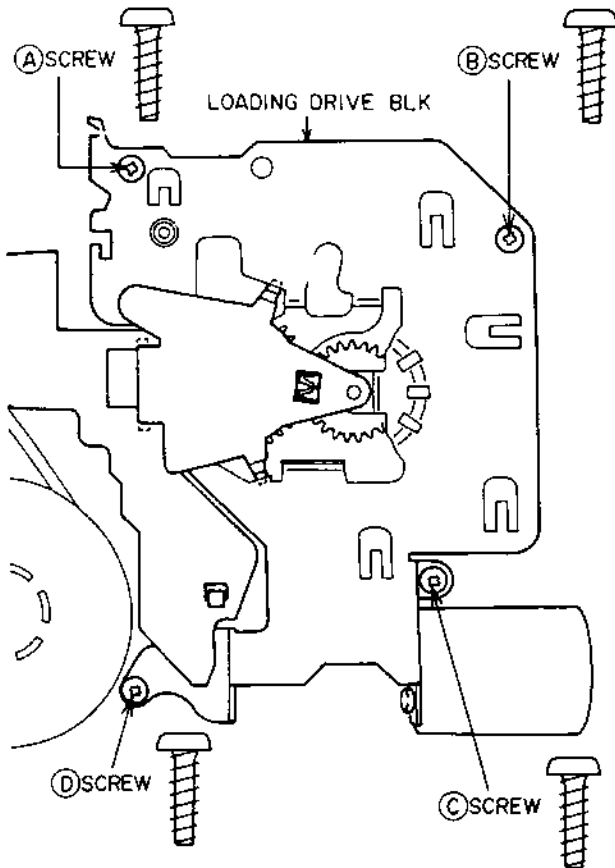

Fig. 4-7
- 3) Remove the (A), (B), (C), and (D) screws, then remove the LOADING DRIVE BLK as shown in Fig.4-7.